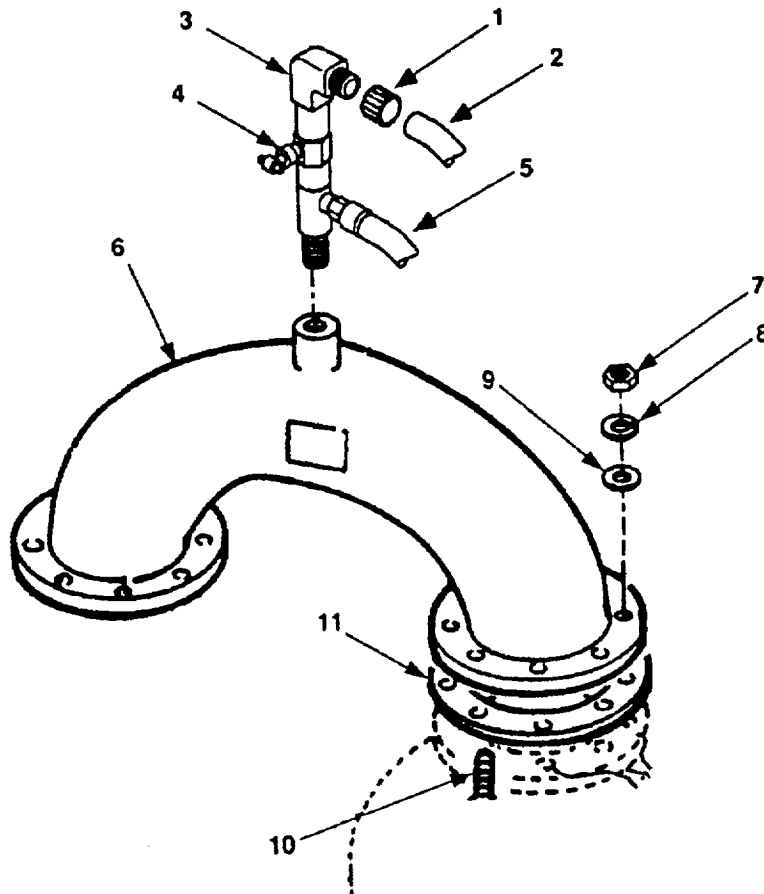

Figure 4-64. Discharge Connection Maintenance (All Except Model 350 PAFN).
- a. Loosen clamp (Figure 4-64, 1) and disconnect hose(2).
- b. Remove elbow (3) and vent valve (4).
- c. Disconnect discharge pressure hose(s) (5).
- a. Install gasket (Figure 4-64, 11) onto studs (10) on centrifugal pump.